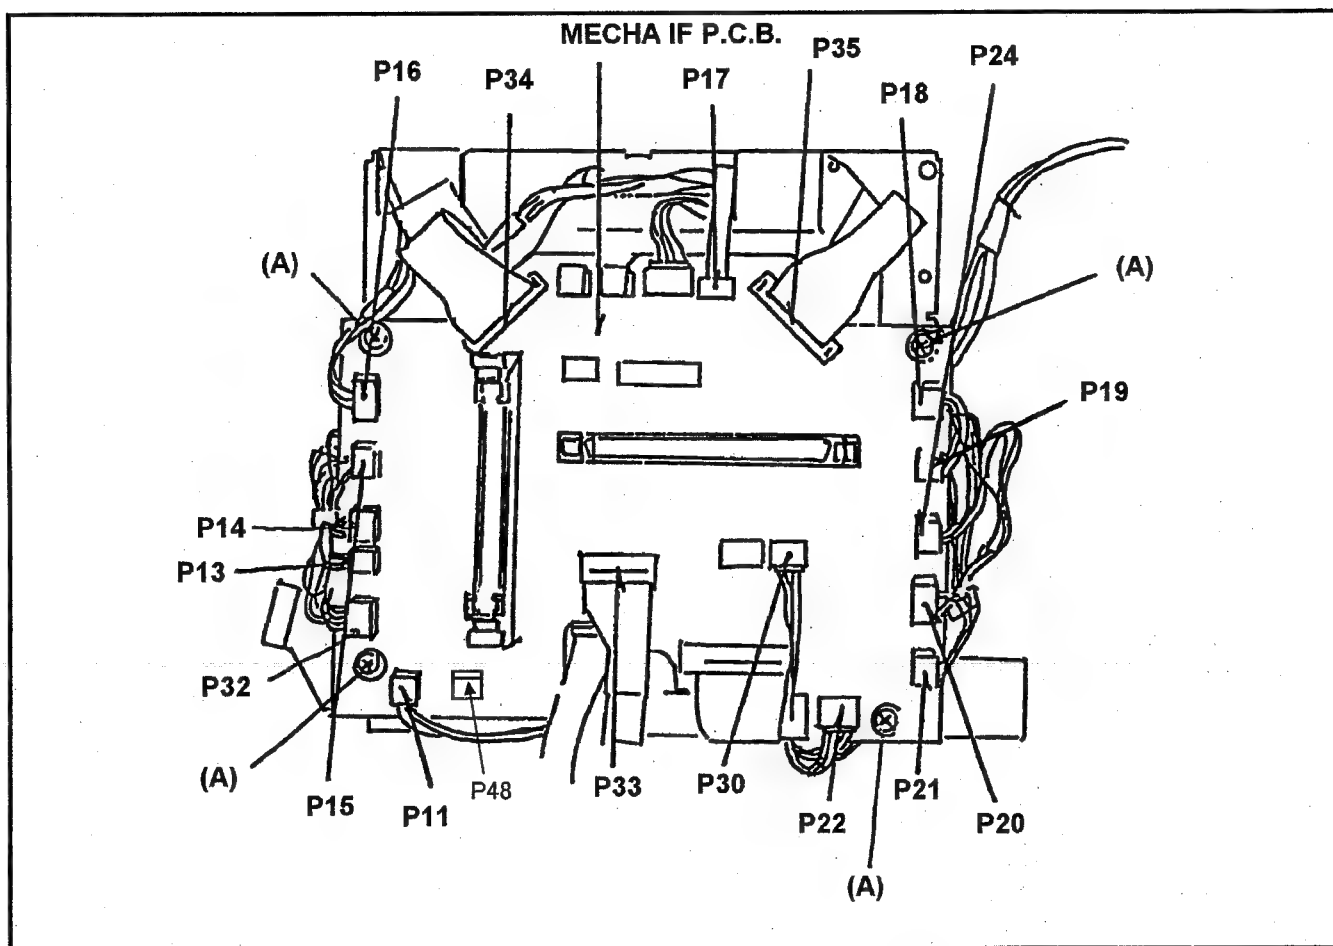
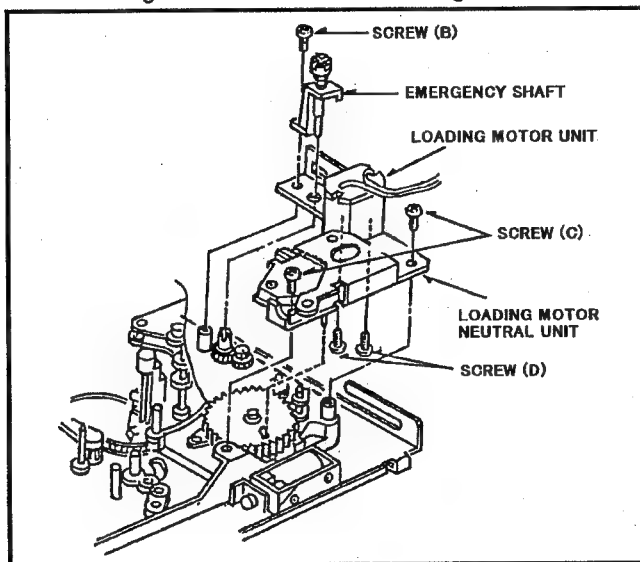
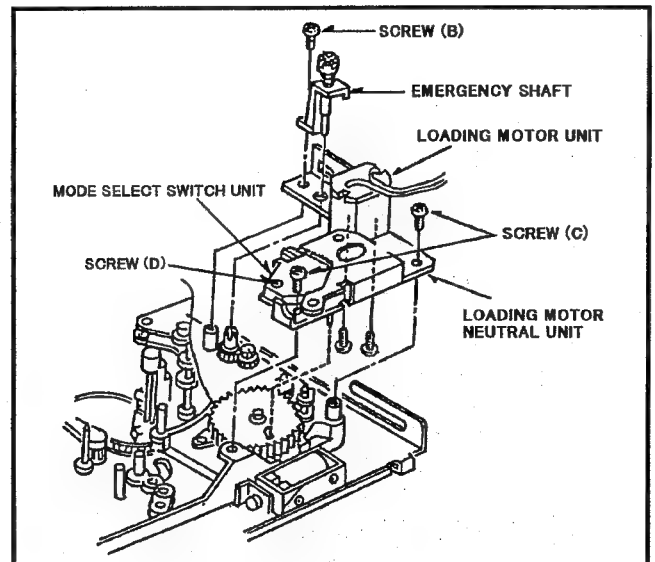

Fig. 6-3-1 Connection of MECHA I/F P.C.Board
Fig. 6-4-1 Removal of Loading Motor Unit
Fig. 6-7-1 Removal of Mode Select Switch Unit
4. Disconnect the connector P34 and P35 on the MECHA I/F P.C.Board as shown in Fig. 6-3-1.
4. Disconnect the connector P21 on the MECHA I/F P.C.Board as shown in Fig. 6-3-1.
5. Remove the Pinch Solenoid Unit (Refer to item 6-8).
6. Remove the Pinch Solenoid Lever. (Refer to item 6-5).
7. Unscrew the screw (B), and remove the Emergency Shaft as shown in Fig. 6-4-1.
8. Unscrew the 2 screws (C) and remove the Loading Motor Neutral Unit as shown in Fig. 6-4-1.
9. Unscrew the 2 screws (D) and remove the Loading Motor Unit as shown in Fig. 6-4-1.
4. Disconnect the connector P20 on the MECHA I/F P.C.Board as shown in Fig. 6-3-1.
4. Disconnect the connector P22 on the MECHA I/F P.C.Board as shown in Fig. 6-3-1.
5. Remove the Pinch Solenoid Unit and Loading Motor Neutral Unit (Refer to item 6-4).
6. Remove the screw (D) and remove the Mode Select Switch Unit from Loading Motor Neutral Unit as shown in Fig. 6-7-1.